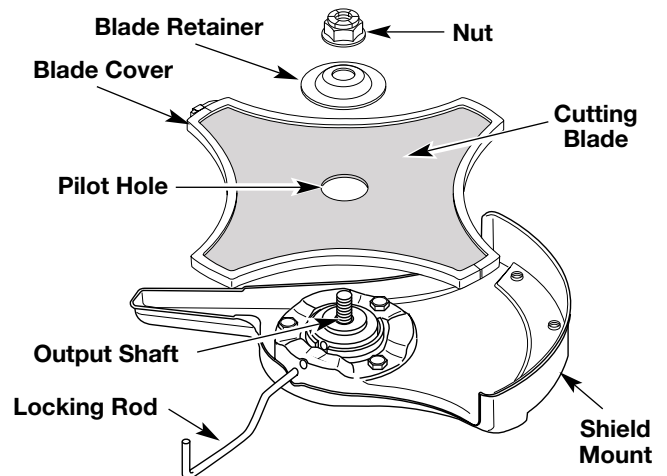

Fig. 10
3. Place the cutting blade on the output shaft (Fig. 10).